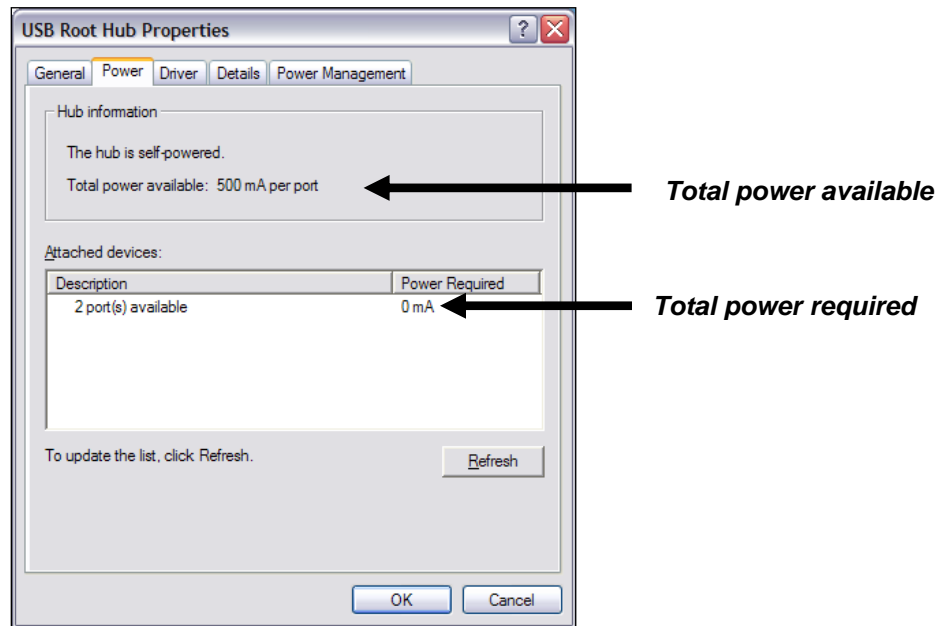

FIGURE 91 - USB POWER SCREEN
5. Click on **Power**. The **Total power available** is displayed as illustrated in *Figure 91*.